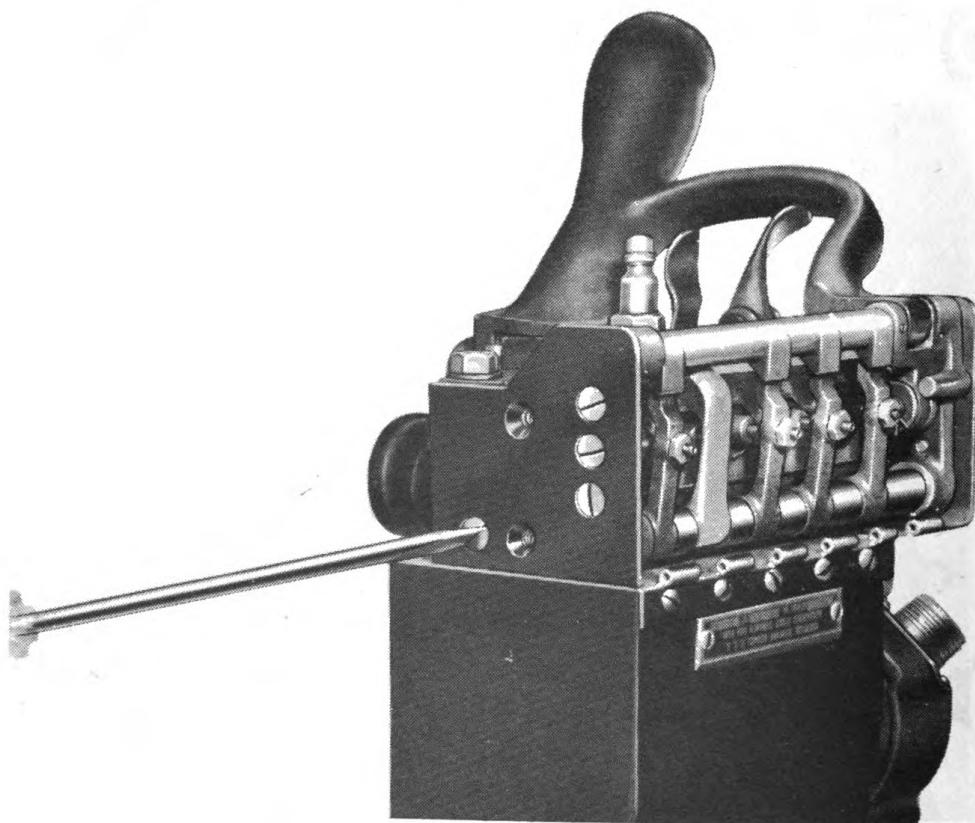

Fig. 102. Removing screws securing end plate.
(1) To remove control levers:
--Remove the three screws securing the plate (end plate) closest to the blow-out lever (fig. 102).